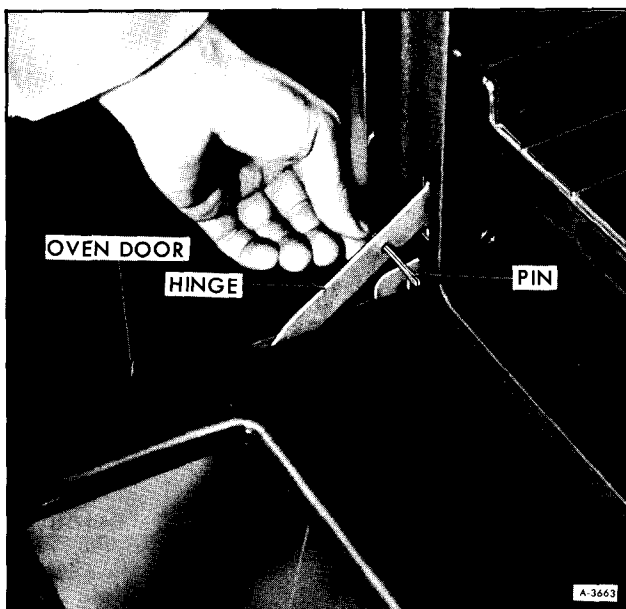

Figure 6—Inserting Pin In Door Hinge
1. Place screwdrivers (awls, nails, etc.) through holes in oven door hinge while door is open (figure 6).